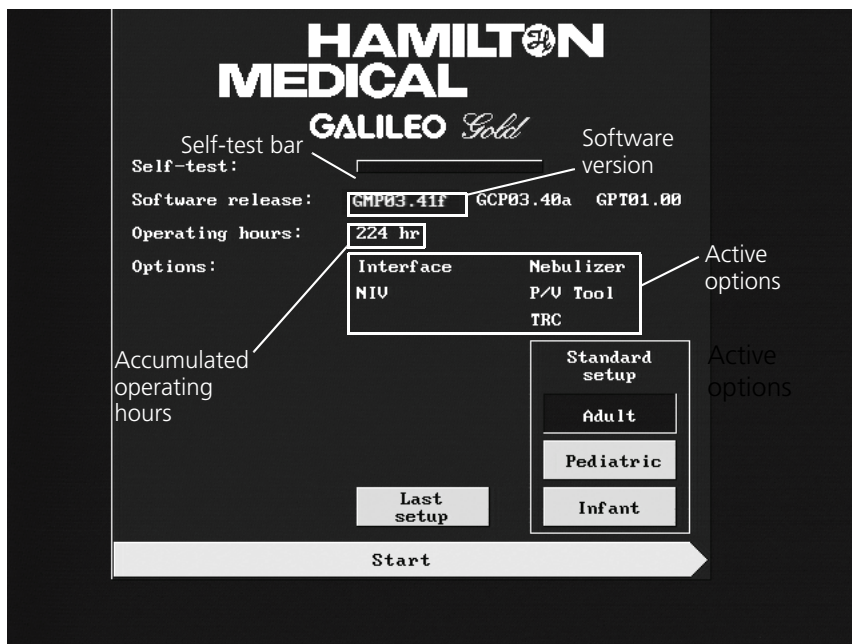

Figure 2-15. Setup screen
To determine whether your ventilator has the nebulization option, look at the setup screen (Figure 2-15). In the configuration mode you can view the nebulizer settings.
- After some seconds, you will see the setup screen (Figure 2-15). The screen shows the **Self-test** bar, the installed software versions, the ventilator's total operating hours, and the active options. You will hear the speaker and buzzer tones during the self-test. The software version noted in the figure (that is, the digit to the left of the decimal point) should match the version on the title page of this manual.